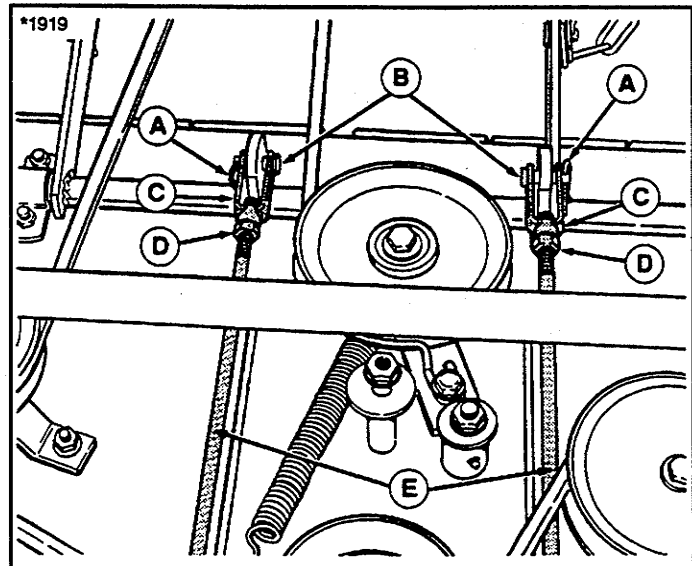

Figure 38. Leveling The Mower Front-To-Back
9. See figure 38. Remove the spring clip (A) and clevis pin (B) from both adjustment rods (E).
10. Loosen the jam nut (D) in front of clevis (C).
12. Install clevis to mower rollers with clevis pin and spring clip. Check front-to-back measurements again. If adjustment is correct, tighten jam nut (D) snug against clevises.